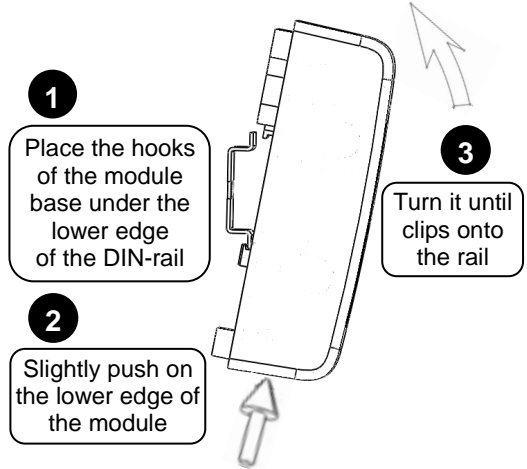

Figure 3. Installing the module on the DIN-rail
3.2.2 Install the module on the DIN-rail as shown in Figure 3.